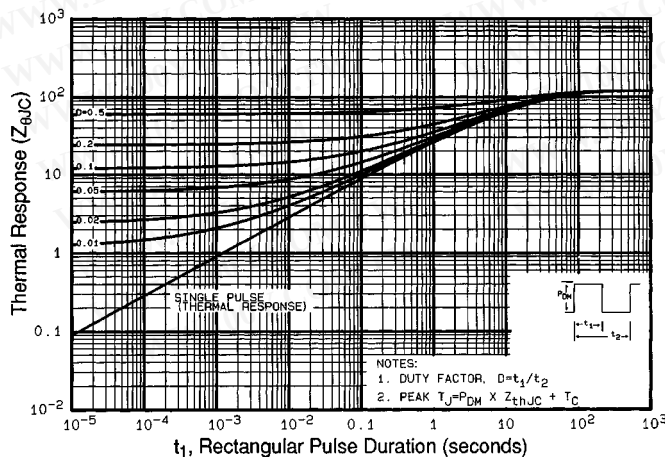

Fig 11. Maximum Effective Transient Thermal Impedance, Junction-to-Case
① Repetitive rating; pulse width limited by max. junction temperature (See Figure 11)
③ $I_{SD} \leq 17A, di/dt \leq 140A/\mu s, V_{DD} \leq V_{(BR)DSS}, T_J \leq 175^\circ\text{C}$
② $V_{DD}=25V$, starting $T_J=25^\circ\text{C}, L=16mH$